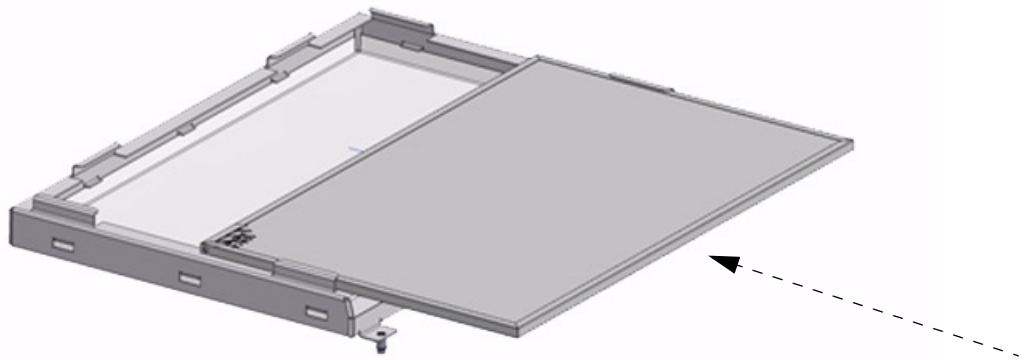

Figure A-3 Install New Filter
5. Install the replacement filter by sliding it into the filter door, as shown in Figure A-3.